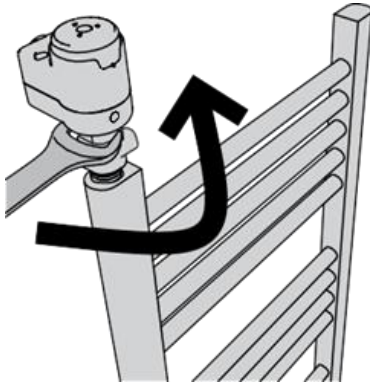

Fig. 15
4. Using a 27 mm spanner unscrew the T-piece with screwed the ATLANTIS III, rotating it anticlockwise until T-piece thread is completely off from towel rail $\frac{1}{2}$ "GAS female thread (Fig. 15).